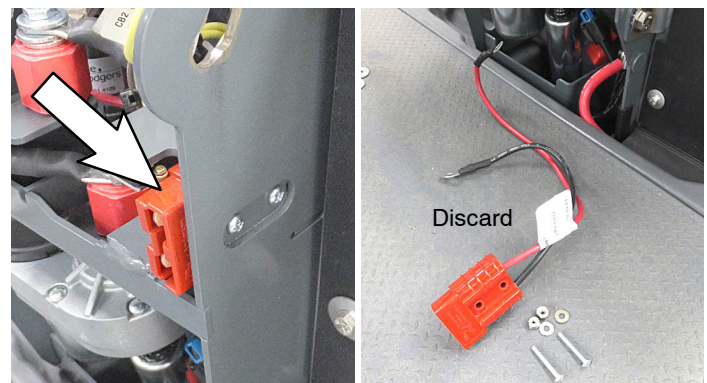

Fig. 5
7. Remove the off-board charger plug from machine and discard (Figure 5).